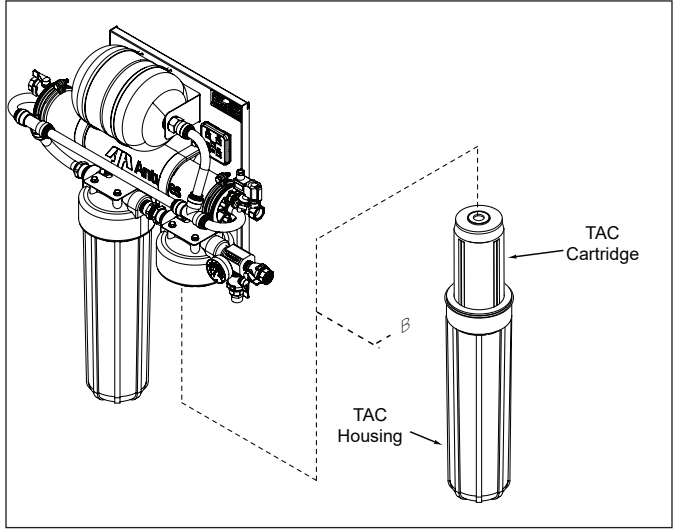

Figure 11. Removing the TAC Housing
4. Remove the TAC Housing (Figure 11).